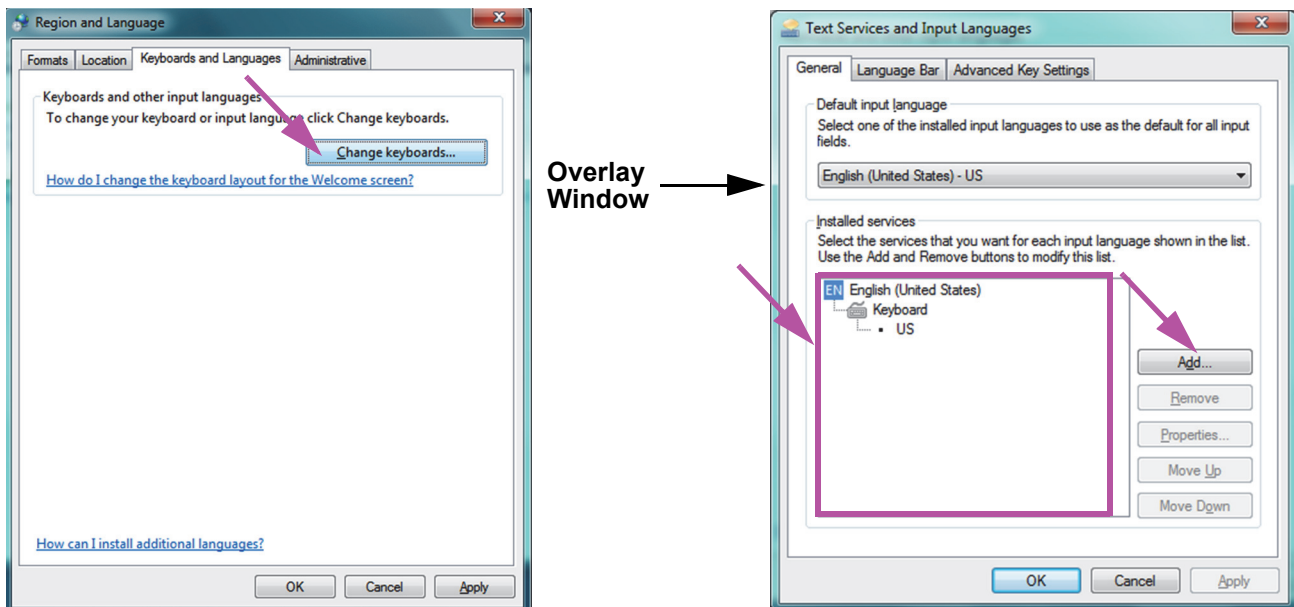

Figure C-3. Region and Language and Text Services and Input Languages Screens
- When the Keyboards and Languages tab appears, click the **Change Keyboards...** button (see Figure C-3). An overlay window appears, listing Installed Services (the available language keyboards).
If the desired language does not exist in the Installed Services box, click the **Add** button (see Figure C-3).